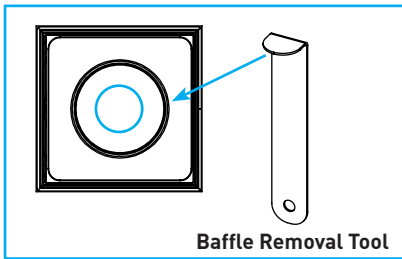

Fig.45
- Using baffle removal tool, carefully place edge of tool on inner most aperture rim and gently pull down until baffle is released from housing. **(Fig.45)**
- A. Remove baffle by inserting baffle removal tool referenced in Section G-1 and carefully prying down (*Fig.45*). Remove optic from LED module by twisting counter clockwise.